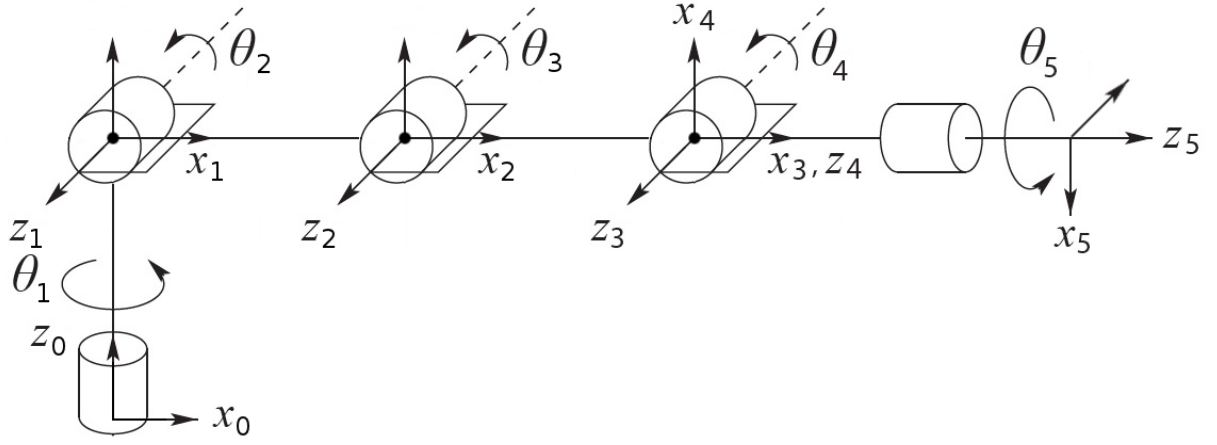

Figure 3: Denavit-Hartenberg frame placement for the A150 and A255 robots.
1. Derive the table of Denavit-Hartenberg (DH) parameters for the A150 robot using the frame placements shown in Figure 3. Links 1–3 all have a length of 10 inches. Link 4 can be treated as a link of length 0 inches. The distance between o_4 and o_5 is 2 inches.